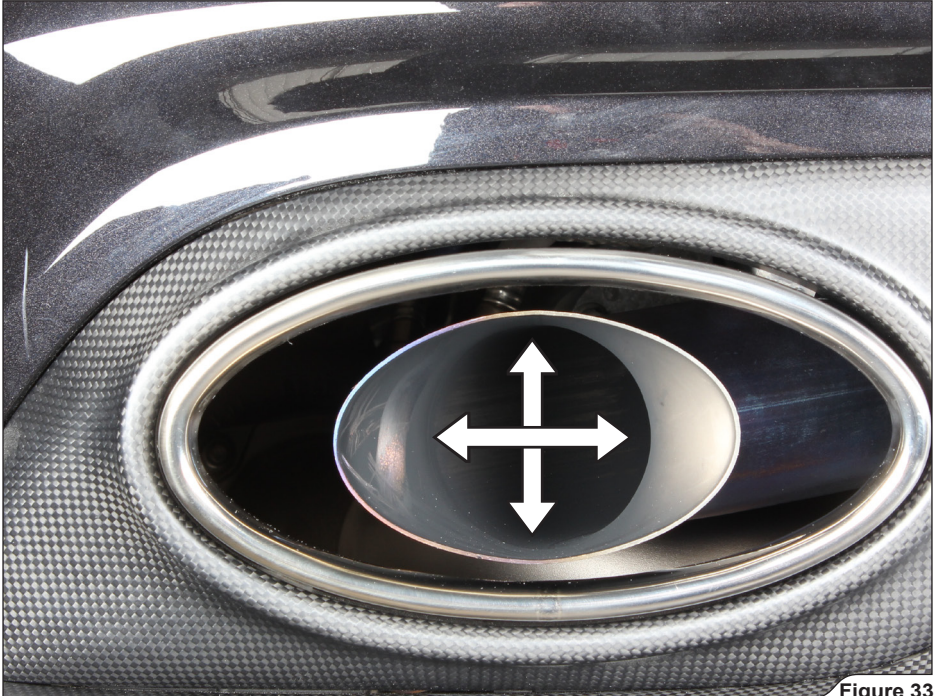

Figure 33
9. Align and center both muffler's outlet pipes in respect to the tail pipes and tighten marked clamps to the specified torque (**Figure 33, 34**).